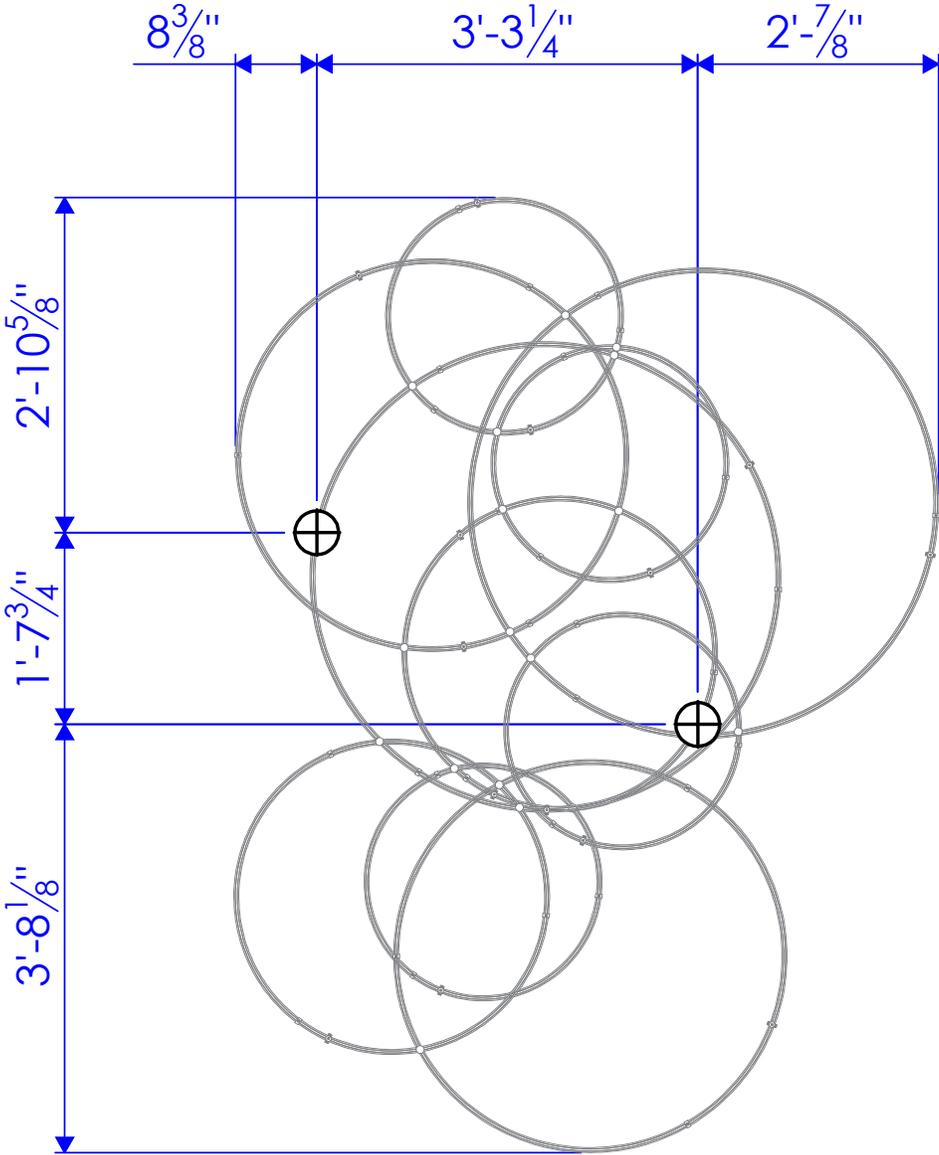

Fig. 3
1. Install the **Double Cord (or Rod) Power Feed Hanger** onto the **Power Bar**: press down firmly on the top of the Power Bar, while pressing up on the bottom of the Hanger, until the Power Bar clicks into place (Fig. 3).